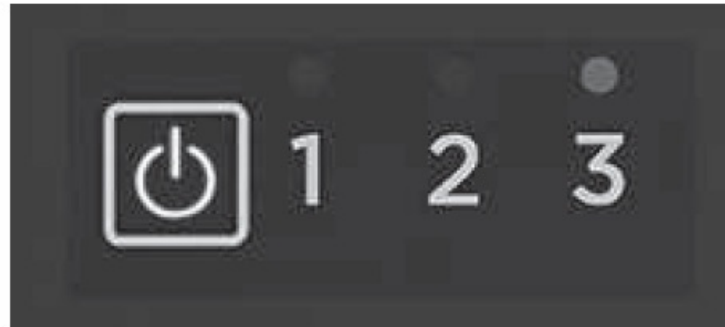

Figure 1
4. Turn the Fan on by selecting the desired speed with the Power Button on the side of the Fan. (Figure 1)